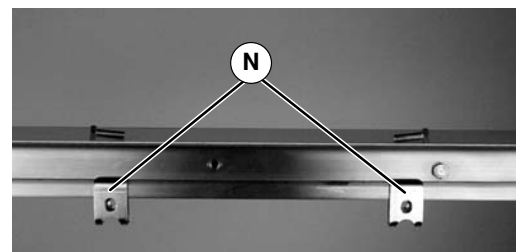

Figure 4
1. Install mounting clips (N of Figure 4) on conveyor.